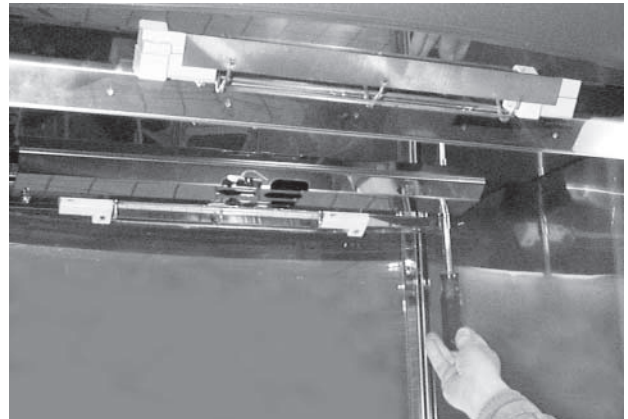

Fig. 59
2. Use a $7/16$ " nutdriver and unscrew two $7/16$ " nuts, one on each side of the vent-grate. Remove the vent-grate (Figs. 59, 60).